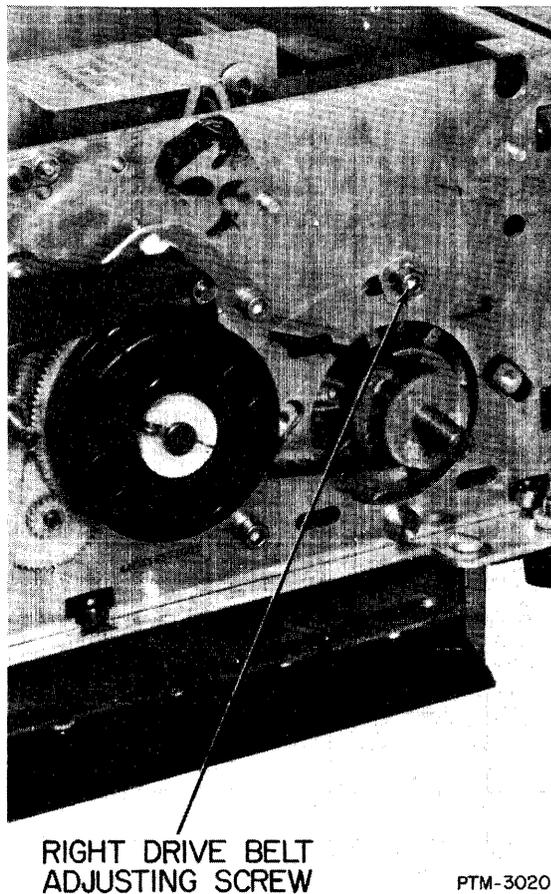

Figure 5-17. Right Drive Belt Adjustment.
- b. Remove the belt by sliding it off jackshaft pulley. When replacing the drive belt, adjust the motor position so that the drive belt deflects .1" to .175" (2.5 to 4.5 mm) with 4 oz. (113g) pressure applied midway between the motor pulley and jackshaft pulley. To adjust tension, loosen the top Allen Head screw and rotate the motor about the lower screw axis (see Figure 5-17). Check the tension by holding the fan blade and moving the Print Belt. The Print Belt should move one print finger width, when taking up the slack in the drive belt.